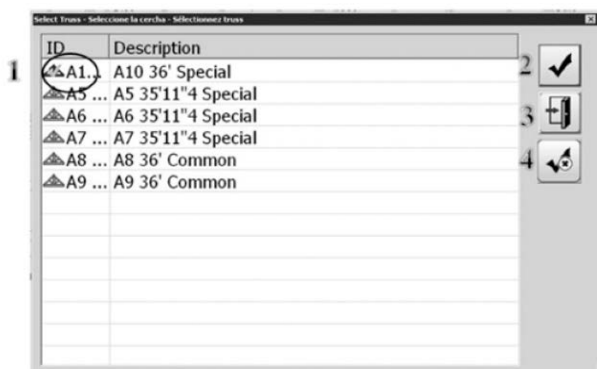

FIGURE 27
Once the job is loaded from the Job Select screen the Select Truss screen appears (Figure 27). From the truss menu, click on the truss name that needs to be setup on the table and then click the check button (2).